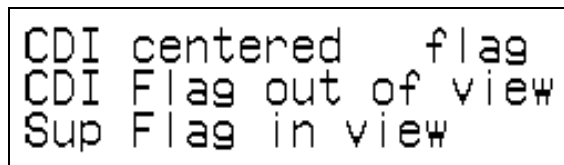

Figure 5-1. CDI Deflection Test Page
1. Rotate the outer function knob clockwise until the CDI Test Page is displayed (Figure 5-1).